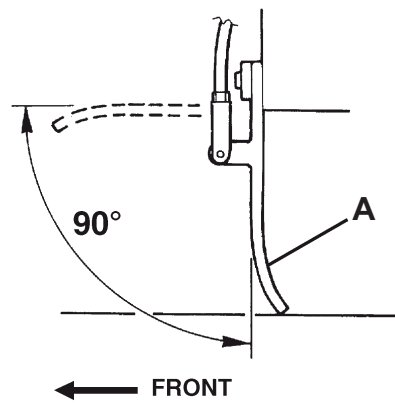

Figure 21
6. Press the front skirt lifting pedal (8) and check that the front skirt (A, Fig. 21) turns upward for about 90° (as shown in the figure); then release the pedal and check that the skirt does not remain in an intermediate position but returns to its initial position. If necessary, for the front skirt control cable adjustment or replacement, refer to the Service Manual.